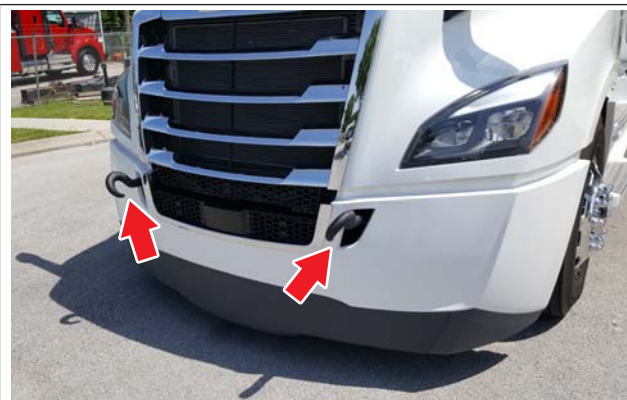

Fig. 21.6, Tow Hooks Installed, Facing Down
3. Install the tow hooks onto the tow hook receivers through the tow hook holes in the bumper, rotating the hooks so the hook opening faces down. See Fig. 21.6. Pull the tow hooks to ensure they are securely engaged in the tow hook receivers.